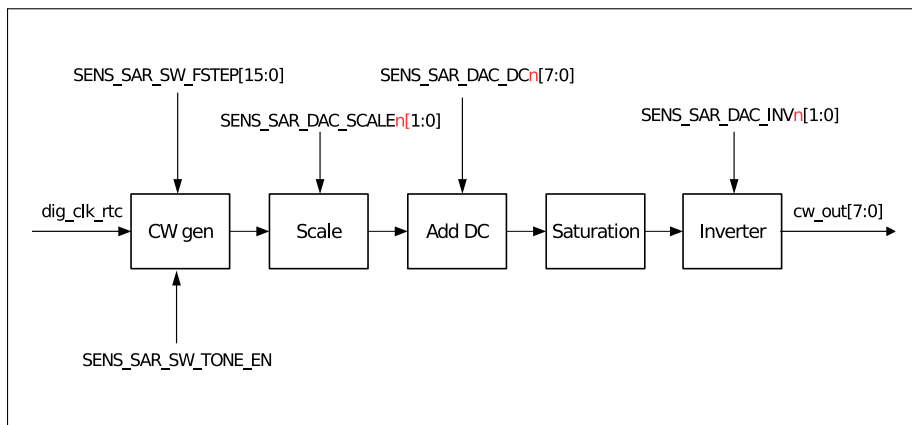

Figure 29-11. Cosine Waveform (CW) Generator
The cosine waveform (CW) generator can be used to generate a cosine / sine tone. A diagram showing cosine waveform generator's function is presented in Figure 29-11.